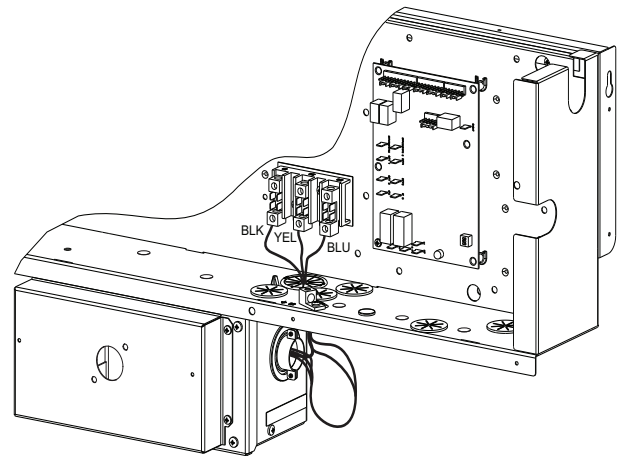

Fig. 19 — NFD Enclosure Location
1. Remove the control box access panel. The NFD enclosure is located below the control box (see Fig. 19).